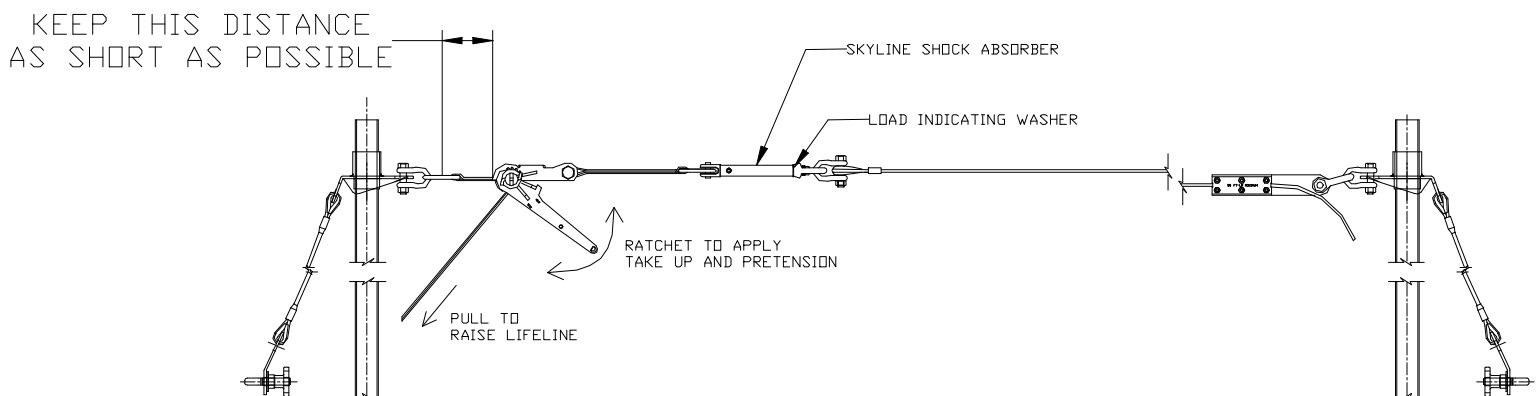

Figure 5
22. Tighten the ratchet load binder until the line tension just releases the load-indicating washer of the shock absorber to spin free. This washer is located just under the eye of the shock absorber (see Figure 5). A freely spinning washer indicates that the cable has been pre-tensioned to 1000 lbf.